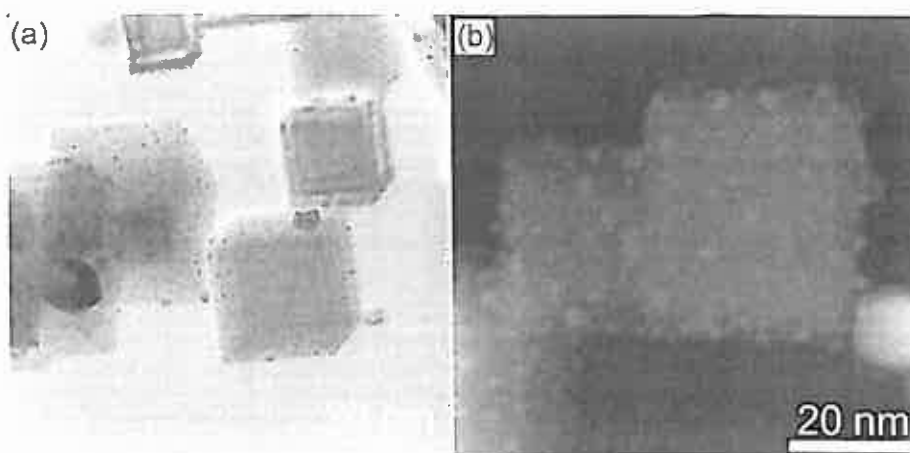
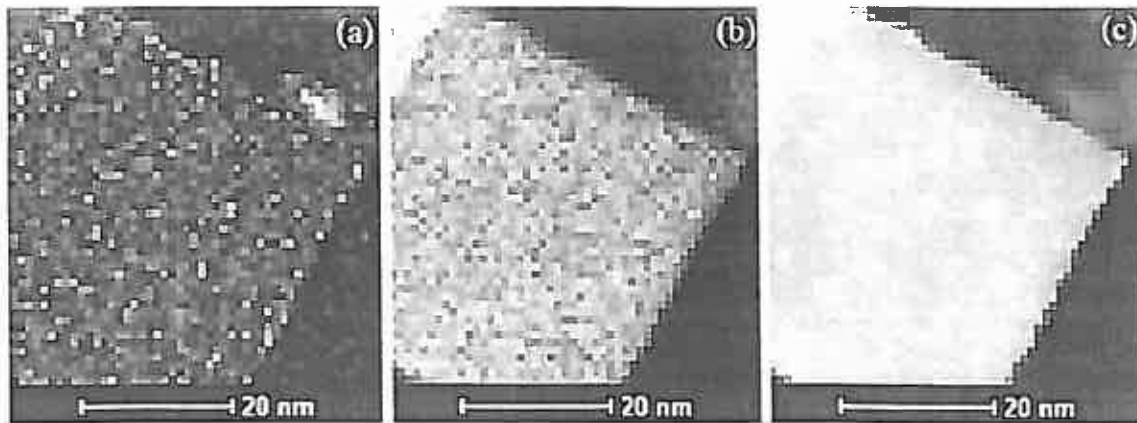

Figure 2: (a) BF-TEM and (b) HAADF STEM image of TiN nanodice with Ag nanoparticles.
Figure 3: STEM EDS maps of TiN nanodice with Ag recorded in TEM (a) Ag-L, (b) Ti-K and (c) N-K.
To image the Ag nanoparticles on the TiN nanocubes could be tricky. In BSE only the heavy Ag particles should light up. However, the BSE resolution is 5-10 nm, so for the smaller Ag particles it might be difficult or even impossible (answer to 2(a) might be relevant for the marking here). SE imaging has the resolution needed, but less contrast. However, judging from Figure 2 there is enough topography contrast possible and there might be a constructive Z contribution at low beam energies and low HT to visualize the Ag nanoparticles clearly (see §5.5.1 and Figure 5.18 (TiCN particles). The aim of this question is to test if the student knows difference between SE and BSE image contrast and resolution. 5 points awarded if answer + argumentation shows this insight. 1 bonus point might be awarded if SE1-SE2 and BSE1-BSE2 are addressed in a relevant way in the answer (Figure 5.19). EDS maps have not the spacial resolution to determine the size of the TiN and Ag nanoparticles. Resolution, contrast, and topology must be named in answer.
In the selected area the amorphous carbon would give 2 broad rings and the powder with nanoparticles would give sharp rings as the powder contains many random oriented TiN and Ag crystals. Argument can be that only 1 TiN dice (spot pattern) in aperture and many Ag particles (ring pattern). Many draw TiN as rings and Ag as spots, maybe because in the labs they studied carbon nanotubes with just a few metal seed particles, so there never full rings. However here there are many metal particles (see Fig. 2).
A bright field (BF) TEM is shown in Figure 2(a) and a high angle annular dark field (HAADF) scanning TEM (STEM) in Figure 2(b).
What are the two main contrast forms present in BF TEM images like Figure 2(a)? How is a BF image formed? Make a simple sketch to support your answer.
For BF-TEM mass-thickness contrast and, diffraction contrast are present, but not phase-contrast. Atomic number or Z-contrast is the answer is the contrast in HAADF-STEM. The Ag nanoparticles are bright dots on the TiN cubes in figure 2(b).
In the TEM the composition of the nanoparticles can be characterised by energy dispersive spectroscopy (EDS). Some EDS maps are shown in Figure 3. Why do the images in Figure 3 have a relatively poor resolution compared to the (S)TEM images in Figure 2? Suggest and explain the principle of an alternative analytical technique in an electron microscope to determine the composition of these nanoparticles.
The main issue is that the image is based on counting statistics. To get a trustworthy result in each pixel, a higher number of counts per pixel per element edge should be recorded. Larger number of pixels would lead to impractical very long counting times. Specimen drift, specimen damage or build-up of contamination becomes a limiting factor. §5.3.1 goes into detail on this. For (S)TEM EDS the specimen is thin, hence a small volume creates the characteristic X-rays resulting in a lower counting rate than in SEM-EDS (in addition the detector is further away and has a smaller area than in SEM). p 354 discusses the low signal in thin specimens. A TEM or STEM image as in Figure 2 is recorded in one process step (not adding scan after scan) and more pixels can be used.